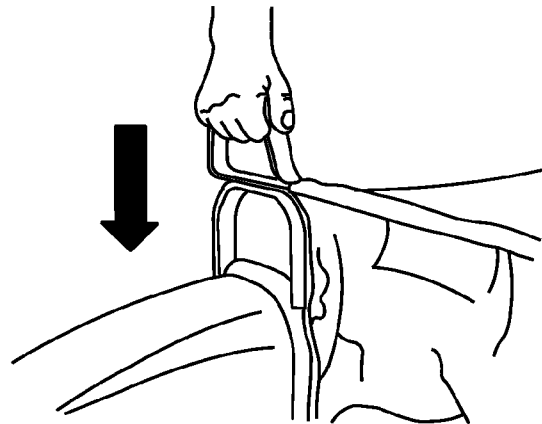

Figure 43
6. Grasp bag assembly handle and slide over flange of grass chute (Fig. 43). Push downward on handle until it seats into position.